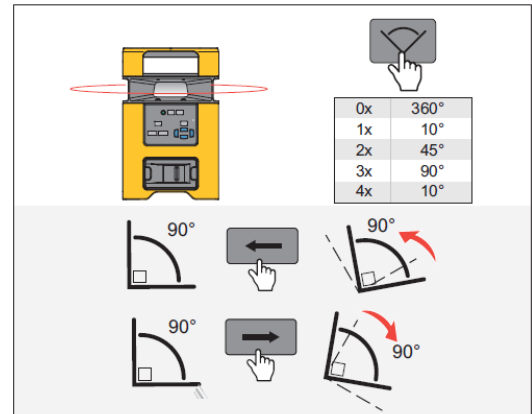

Figure 4. Scan Mode
1. Push to enable scan mode and to set the arc length. Figure 4 shows how many times to push to cycle through the possible arc lengths.